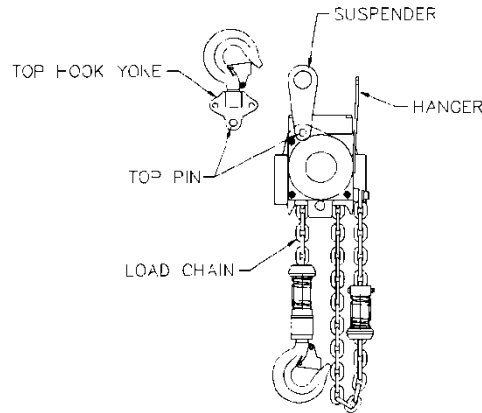

Figure 3-22 Installing Suspender on single fall hoists TCR/S/L250P, 500P, 3000P, and TCK3000
- 1) Refer to **Figure 3-22**.
- a. **CAUTION** Ensure Suspenders P is mounted in the same hole position that the hook was located. Position #1 is for single fall models (001 and 003) and position #2 is for double fall models (005).
For Single fall hoists (*TCR/S/L250P, *500P, 1000P, 3000P, TCK/L3000) - Refer to **Figure 3-22**.